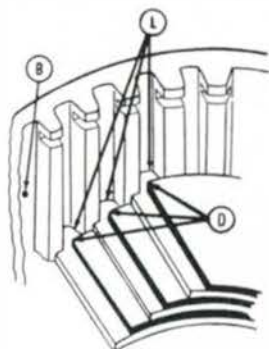

Fig. 152—Cross-sectional view of Multi-Power clutch showing recommended method of assembly. Refer to text.
When reinstalling piston (7), carefully compress outer seal ring (8) using a feeler gage blade or similar tool while working piston into clutch housing. When assembling clutch plates, note that clutch housing contains six bleed holes (B—Fig. 152) that are evenly spaced around the housing and that drive plates have six external lugs. Install first drive plate on top of piston with lugs (L) located one spline to the right (clockwise) from bleed holes. Place the six piston return springs on the lugs of the first drive plate. Install friction discs and remaining two drive plates alternately, staggering the lugs of each plate one spline further to the right of the plate previously installed as shown in Fig. 152. Make certain that return springs contact only the first plate, then install retainer (3—Fig. 151) and snap ring (2).